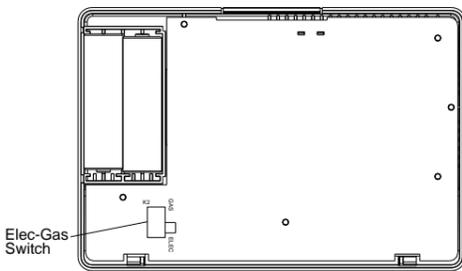

Figure 1. Electric/Gas Switch (Fan Option)
This thermostat is configured from the factory to operate a heat/cool, fossil fuel (gas, oil, etc.), forced air system. It is configured correctly for any system that DOES NOT require the thermostat to energize the fan on a call for heat. If your system is an electric heat or heat-pump system that requires the thermostat to turn on the fan on a call for heat, locate the ELEC/GAS switch on the back of the thermostat (see fig. 1) and switch it to the ELEC position. This will allow the thermostat to energize the fan immediately on a call for heat. If you are unsure if the heating/cooling system requires the thermostat to control the fan, contact a qualified heating and air conditioning service person. When the thermostat is configured for Heat Pump, the thermostat will always power the circulator fan on a call for heat in the HEAT mode. The ELEC/GAS switch must be set to match the type of Auxiliary heat your system uses for proper operation in the EMERGENCY mode. All wiring diagrams are for typical systems only. Refer to equipment manufacturers' instructions for specific system wiring information.
- Fasten base loosely to wall, as shown in fig. 1, using two mounting screws. Place a level against bottom of base, adjust until level, and then tighten screws. (Leveling is for appearance only and will not affect thermostat operation.) If you are using existing mounting holes, or if holes drilled are too large and do not allow you to tighten base snugly, use plastic screw anchors to secure base.